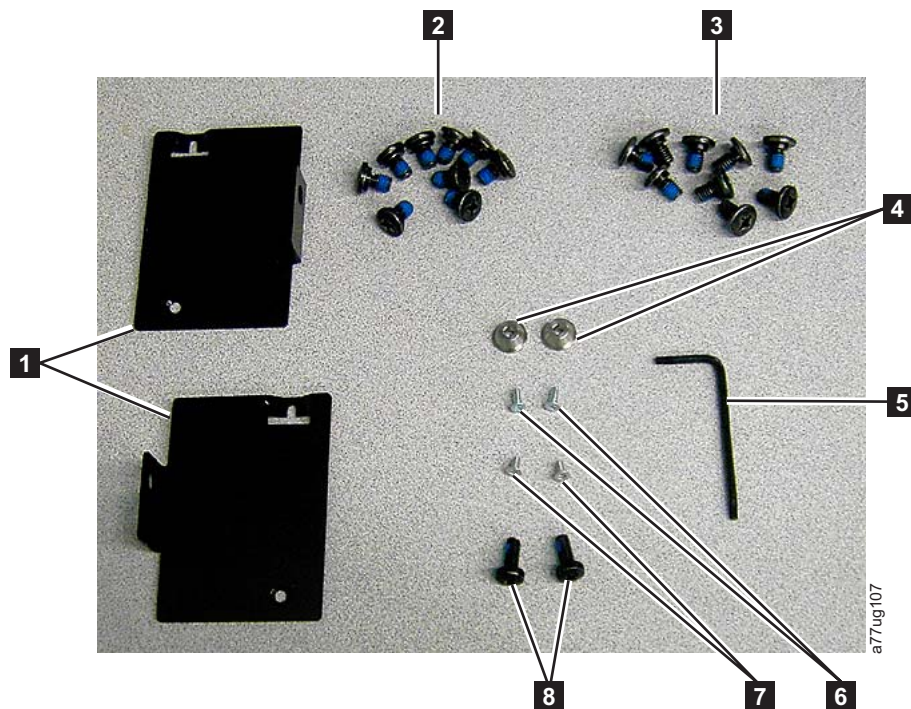

Figure 4-6. Rack Kit mounting hardware
1. Verify that your rack kit includes the following contents (see Figure 4-6 on page 4-8):
- Two (2) rails (not shown)
- Two (2) mounting brackets (**1**)
- One (1) T10 Torx wrench (**5**)
- Two (2) anchors (**4**)
- Two (2) countersunk screws for securing the anchors (**6**)
- Two (2) smaller screws for securing the tops of the mounting brackets (**7**)
- Two (2) large screws to secure the mounting brackets to the rack (**8**)
- Packaged in the small bag with "Round Hole" on the label: Nine (9) screws to be used on racks with round holes. (**2**)